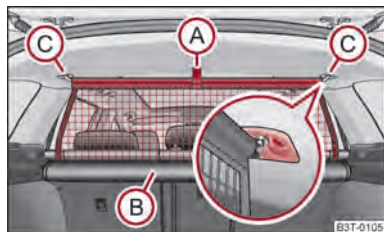

Fig. 82 Pull out the luggage net partition
- Pull the net partition at the bracket **A** ⇒ fig. 82 out of the housing **B** in direction of the holders **C**.
- Pull the cross rod back slightly, first on the one side then on the other side and take the cross rod out of the mount **C** ⇒ fig. 82.